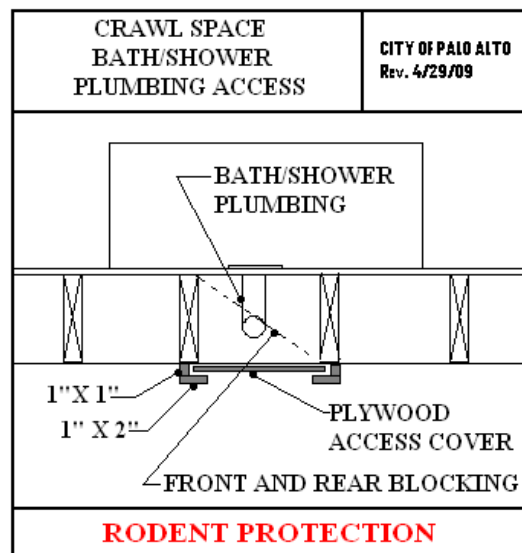

FIGURE B-1
9. Tub waste openings in framed construction to crawl spaces shall be protected from rodent intrusion with no openings greater than 1/2" inch. See FIGURE B-1 for an approved method of protection/access.